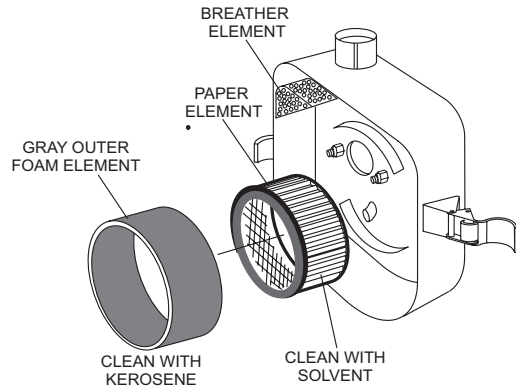

Figure 17. Engine Air Cleaner
- The air cleaner (Figure 17) on the engine side will hardly be contaminated, if it is, clean the outer foam gray element with cleaning solvent. Tightly squeeze outer foam element to remove any excess solvent before reinstalling.
- Tap the paper filter element (Figure 17) several times on a hard surface to remove dirt, or blow compressed air [not exceeding 30 psi (207 kPa, 2.1 kgf/cm2)] through the filter element from the air cleaner case side. **NEVER** brush off dirt. Brushing will force dirt into the fibers. Replace the paper filter element if it is excessively dirty.